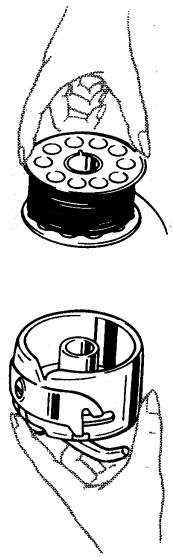

Fig. 7
1. Hold bobbin so that thread unwinds in the direction as shown in Fig. 7 and put bobbin in bobbin case.